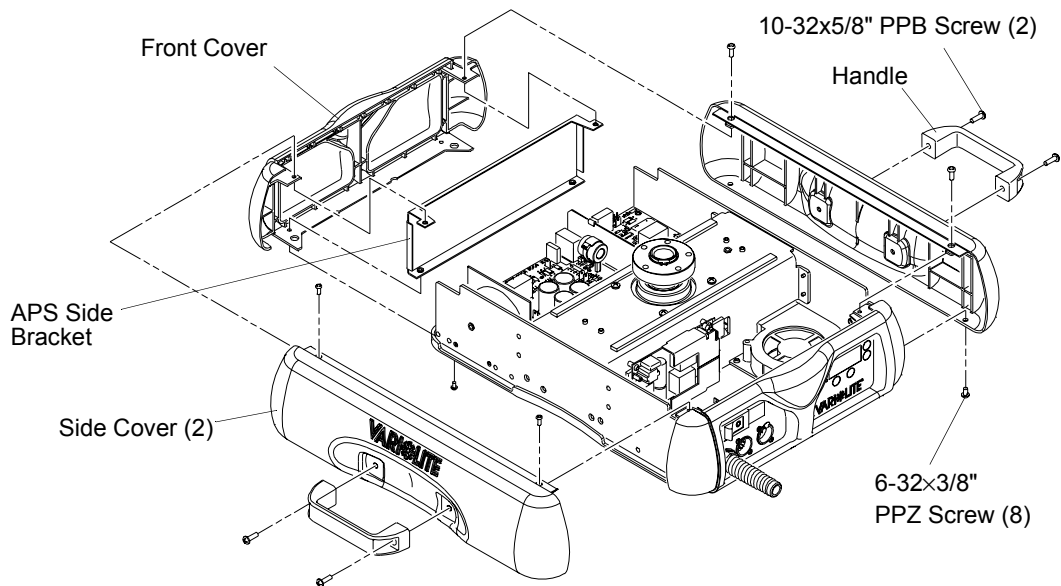

Figure 2-25: Accessing Ballast Module Assembly
- Step 4. Remove eight 6-32 X 3/8" PPZ screws and remove both side covers (**Figure 2-25**).